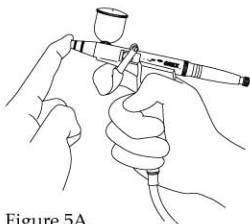

Figure 5A.
3. Using your finger or a towel, block the front of the airbrush opening (needle cap) carefully. Refer to Figure 5A below.